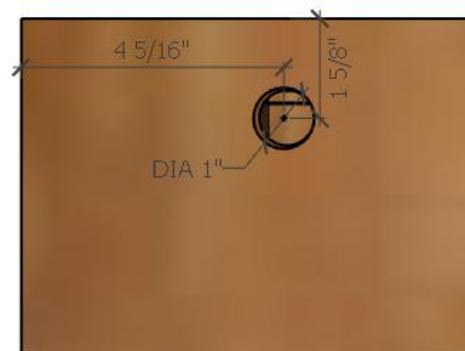

Figure 42: Location of Hole to be Drilled in the Collector Frame for the Absorber Pipe
Mark and drill a 1" (D) hole on the attached piece of lumber using a hole saw. The hole's centre will be approximately 4-5/16" from the side and 1-5/8" from the top of the lumber as shown in Figure 42. Be sure to drill the hole at the same angle as the pipe exiting the absorber assembly.